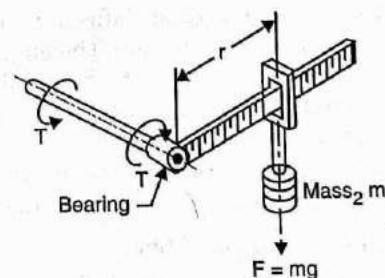

Fig. 7.43. Gravity balance for torque measurement
In a **gravity balance method** (Fig. 7.43), the known mass (m) is moved along the arm so that the value of torque ($F \times r$) equals the product (T) which is to be measured. Alternatively magnitude of the mass may be varied, keeping the radius constant. For the two arrangements we have: